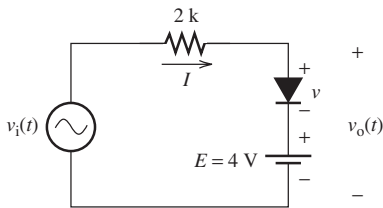

FIGURE P8.15 Circuit for Problem 8.15.
- 8.15 (B) For the circuit shown in Figure P8.15: